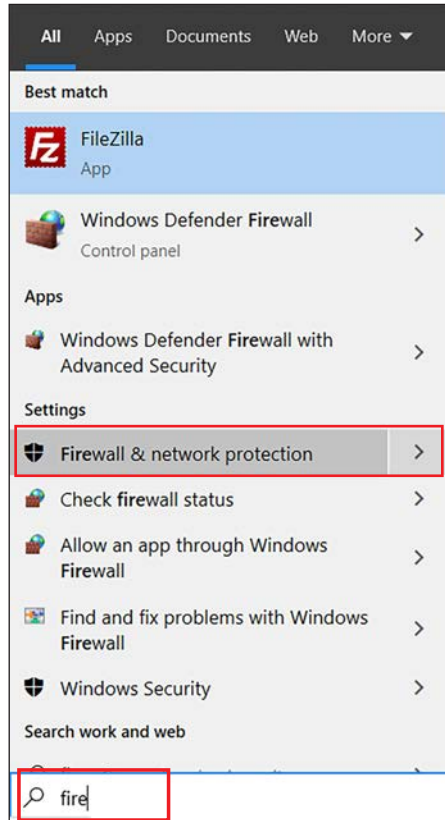

Figure 43. The Windows search dialog box.
STEP 1. In the Windows search window, type “fire.” See Figure 43. Click on “Firewall & network protection.”